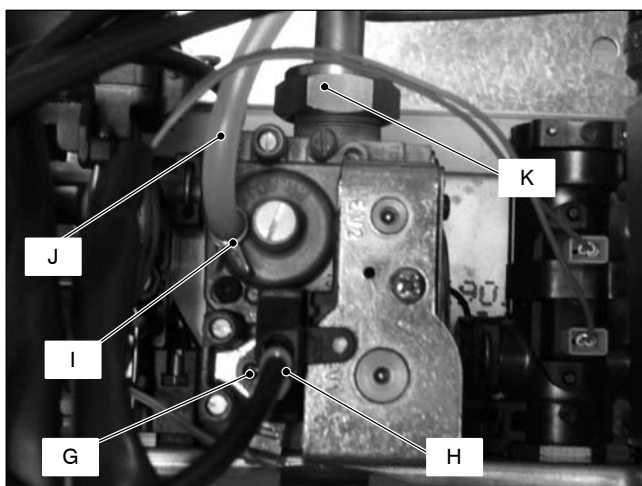
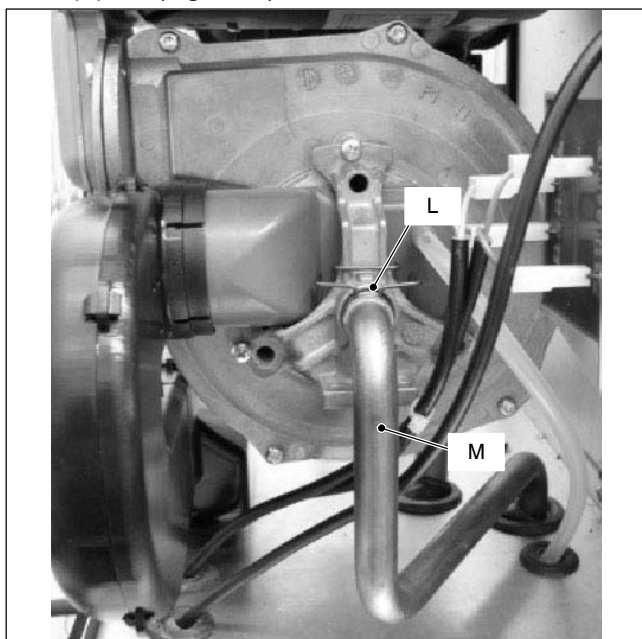

Fig. 11.9
Fig. 11.10
- 2 Remove the screw G and disconnect the connector H (Fig. 11.9).
- 4 Using pliers, remove the spring *I* and the rubber pipe *J* (Fig. 11.9).
- 5 Unscrew the connector *K* (Fig. 11.9), remove the fixing fork *L* and remove the pipe *M* (Fig. 11.10).